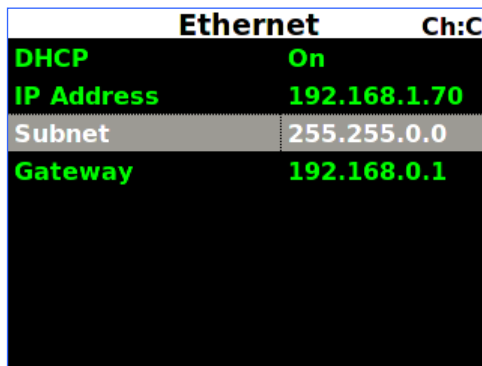

Figure 151: IP Subnet Selection
1. To assign an IP subnet, use the down arrow on the keypad to highlight the IP Subnet (Figure 151), then press the Enter key.